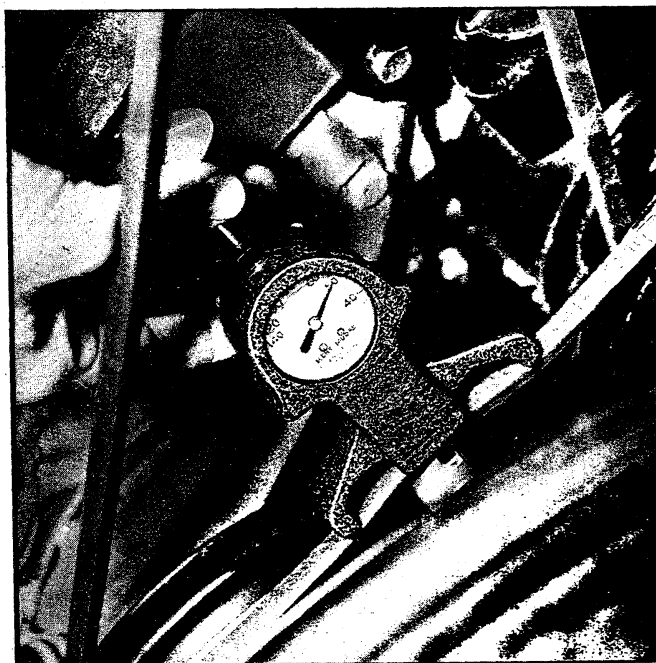

Fig. 65—Checking Belt Tension with Tool J-7316
2. Move pump, with belt in place until belt is tensioned to specifications as indicated by Tool J-7316 (Fig. 65).
The following procedure outlines methods to identify and isolate power steering hydraulic circuit difficulties. This test is divided into two parts. Test number one provides means of determining whether power steering system hydraulic parts are actually faulty. If test number one results in readings indicating faulty hydraulic operation, test number two will identify the faulty part. Before performing hydraulic circuit test, carefully check belt tension and condition of driving pulley. Strand tension of belt should be 125 lbs. on new belts and 75 lbs. on old belts, as indicated by Tool J-7316 (Fig. 65).